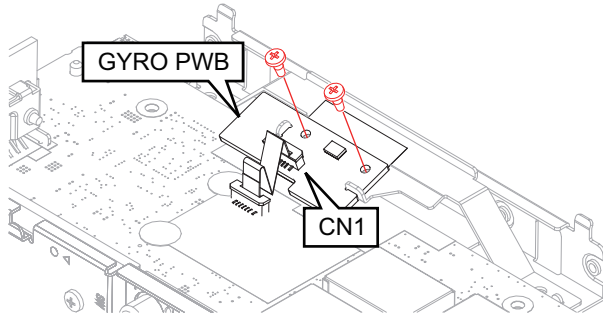

Fig.21
- (2) Disconnect the FFC from connector. (See Fig.21)
- (3) Remove the 2 screws, and remove the GYRO PWB.
(See Fig.21)